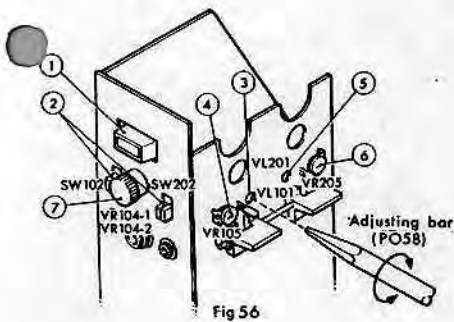

Fig 56
5. Connect a VTVM (Vacuum Tube Voltage Meter) across a 100Ω resistor (7-pin of PO57). Turn the trap coil (VL101) until the voltage on VTVM is maximum as shown in Fig. 56.